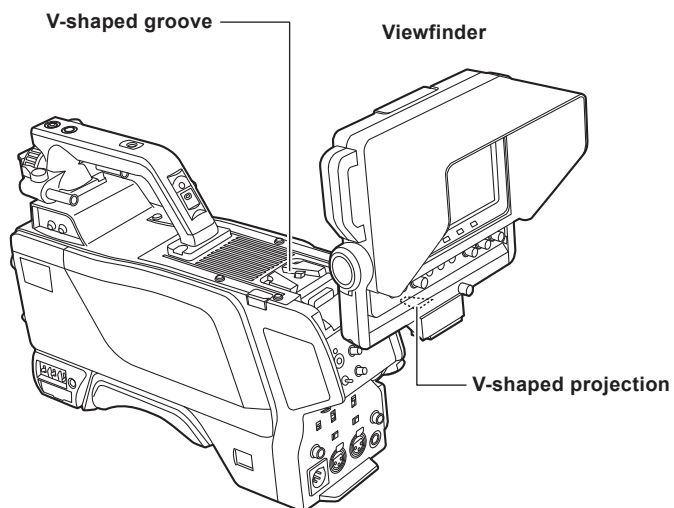

Fig. 2
- 3** Align the V-shaped projection of this unit to the V-shaped groove on the camera, and slide and push in until it is locked. (Fig. 2)